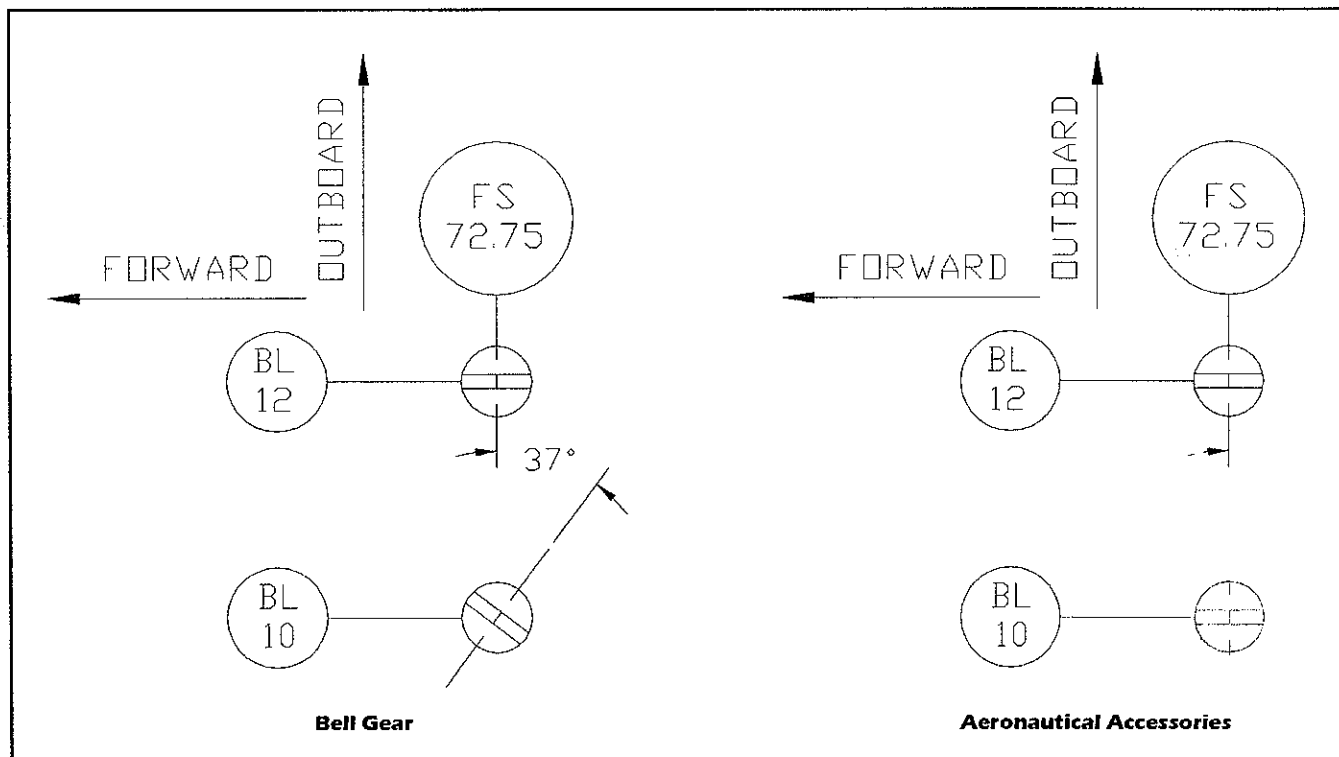

Figure 1-4, Clevis Bolt Orientation (View looking up, left side of aircraft)
1. **(Bell Gear)** Install one Clevis Bolt (P/N 308-302 028-001) from the bottom and secure with Nut (P/N 111045 MS21044C4) and Washer (P/N 112100 AN960C-416). The Clevis Bolt aligns with the lug aft end canted 37° toward the aircraft center line. 50 to 70 in.-lb. (Figure 1-3, 1-4) **(Aeronautical Accessories Gear)** Install one Clevis Bolt (P/N 308-302 028-001) from the bottom through the inboard hole. Secure with nut (P/N 111045) and washer (P/N 112100). The Clevis Bolt aligns with the lug aft end parallel to the aircraft center line. 50 to 70 in.-lb. (Figure 1-4, 1-5)
- d. (**Bell Gear**) When the forward fork fitting on the strut aligns with the inboard Clevis Bolt installed earlier (Figure 1-4) at the forward attachment point, install Quick Release Pin (P/N 114441 MS 17985-C510) through holes in both fittings. (Figure 1-1) (**Aeronautical Accessories Gear**) When the forward fork fitting on the strut aligns with the inboard Clevis Bolt installed earlier (Figure 1-4) at the forward attachment point, install the Clevis Pin (P/N 114150) and the Cotter Pin (P/N 114270) through holes in fittings. (Figure 1-1)